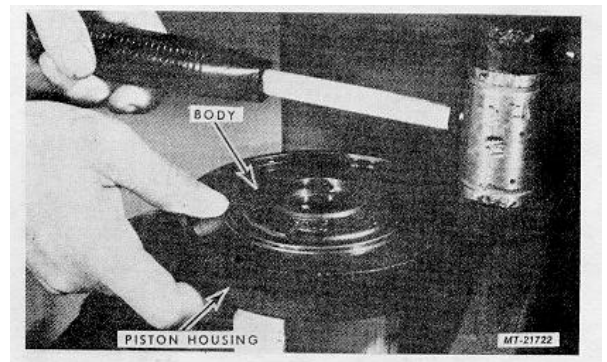

Fig. 30
27. Gently tap Piston Housing from Body, Fig. 30.